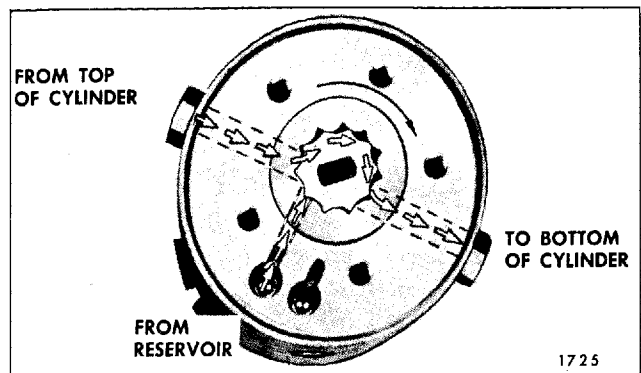

Fig. 6-62—Operation Of Pump To Raise Top
1. Raising the Top. When the red motor lead is energized the motor drive shaft turns the rotors clockwise as indicated by the large arrow in Figure 6-62. The action of the pump rotors forces the fluid under pressure to the bottom of each cylinder forcing the piston